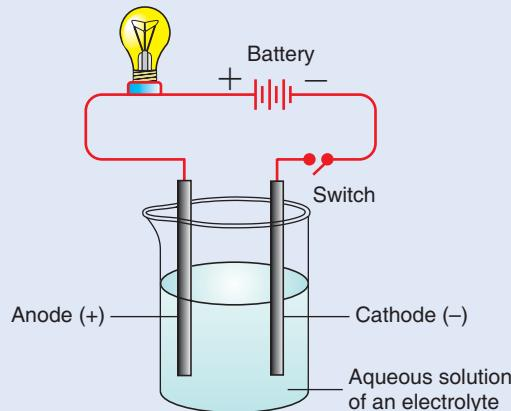

Figure 3.4 Conductivity of electrolytic solution.
Construct a conductivity apparatus in your group. To construct the apparatus, you will need a light bulb, three dry cells, some electric wire, two graphite electrodes and a switch. You can get the graphite electrode by peeling off two old dry cells. A graphite electrode is the long cylindrical black rod inside the cell. Ask your teacher for further assistance. Assemble the materials as shown in **Figure 3.4**. Demonstrate the experimental set-up to the class.
1. Arrange the conductivity apparatus as shown in **Figure 3.4**.